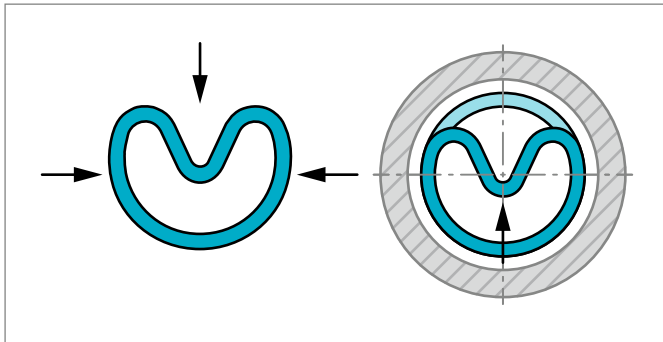

Figure 182: Place the Excluder® in compressed form into the groove behind the O-Ring and push Excluder® ring in the direction of the arrow
- 2) The Excluder® ring is compressed into a kidney-shape and placed in the groove, see Figure 182.